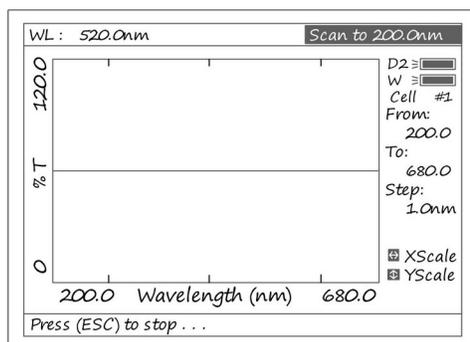

Fig 44
3. Put the blank cuvette into the Light Path, press [ZERO] to scan the base line (Fig 44). Press the key [ESC/STOP] to stop scanning;